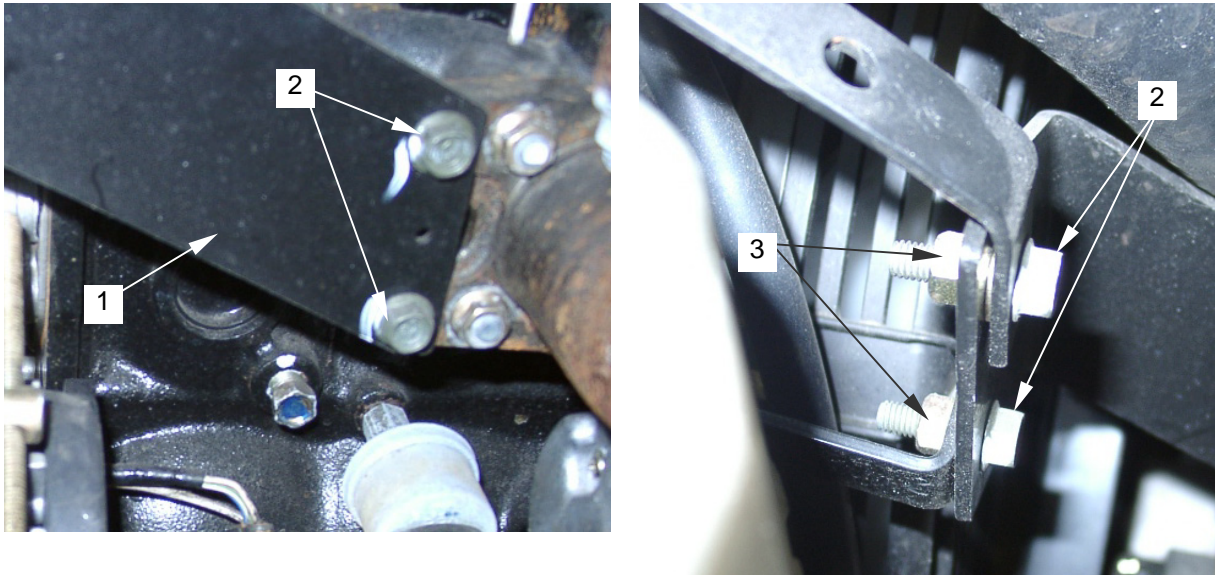

Figure 2. Radiator Bracket
- a. Loosen and remove radiator bracket (figure 2, item 1) mounting bolts (figure 2, item 2) and nuts (figure 2, item 3).